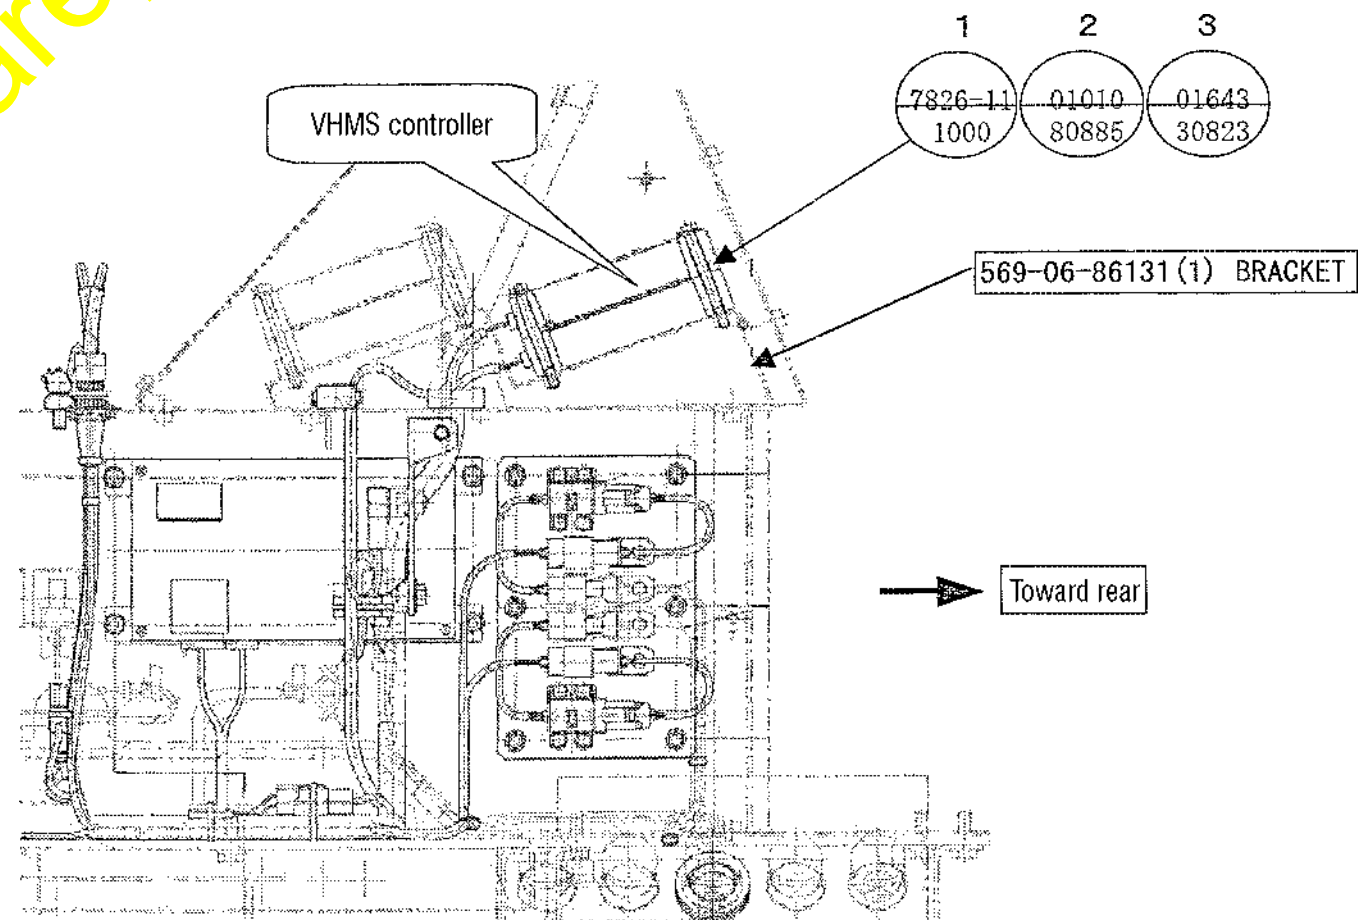

Fig. 3
- ③ Removing the VHMS controller (Refer to Fig. 3.)